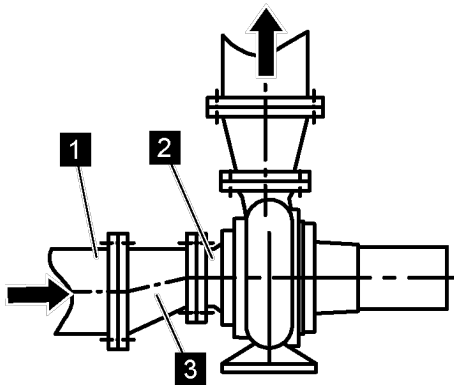
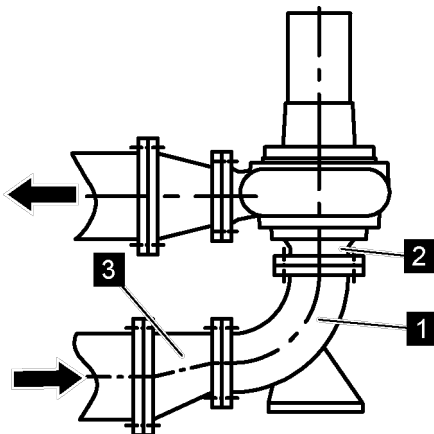

Fig. 19: Horizontal pump installation
Fig. 20: Vertical pump installation
- The suction line (1) must point towards the suction inlet (2) of the pump (Fig. 19) or upward (Fig. 20).